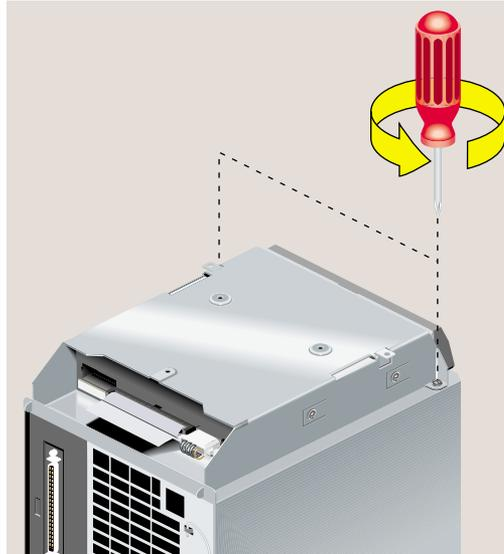

Figure 5-50 Removing the Screws From the CD-ROM Drive
- Use a Phillips screwdriver to remove the two screws that secure the CD-ROM drive (Figure 5-50).